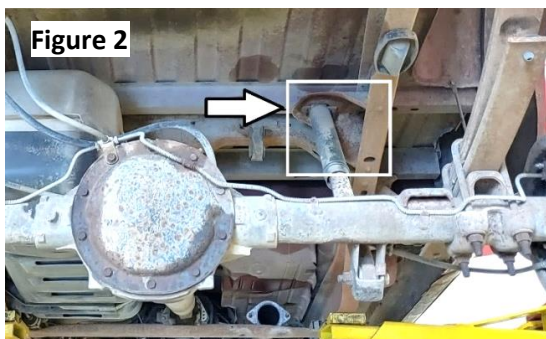

Figure 2
6. Remove the rivets from the passenger side upper shock mount bracket from the frame and discard. **(Figure 2)** The drivers side upper shock mounting bracket does not need to be removed to install this suspension system.